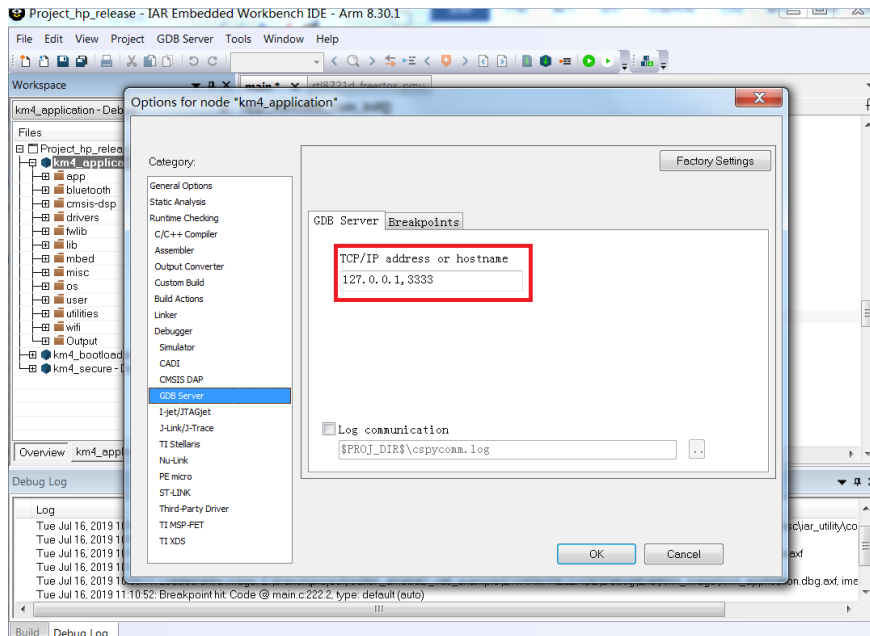

Fig 6-16 RLX Probe interface setup
- b) Click **GDB Server > GDB Server**, and put correct value in “TCP/IP address or hostname”, as Fig 6-16 shows. The value should be: *localhost, port number*.